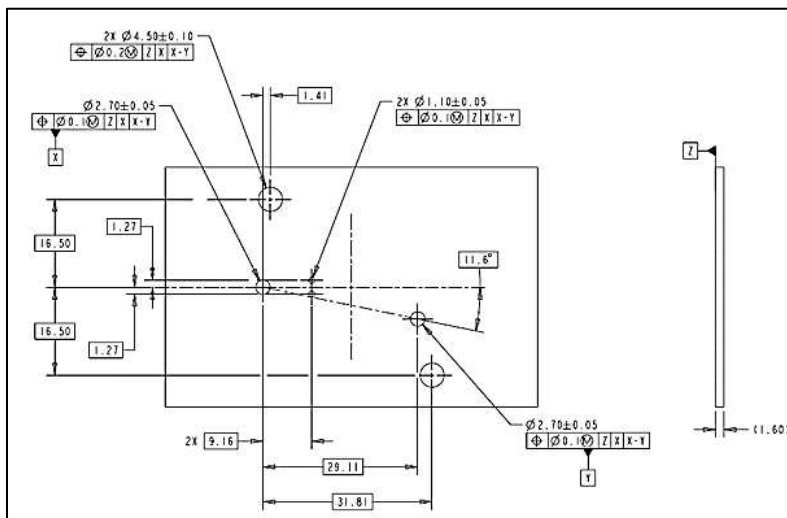

Figure 40: Recommended PCB layout for headers 2366735-1,-3
- ii. Align the header with PCB using the alignment post. See figure 40,41.